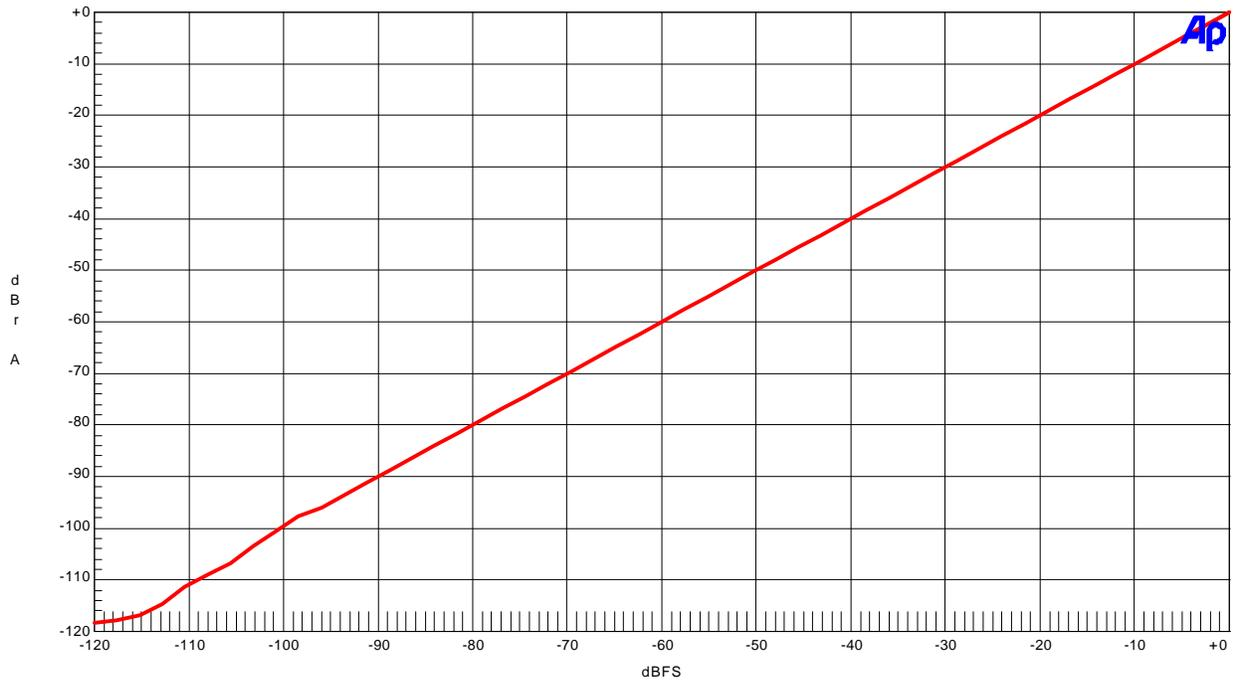

Figure12. Linearity (fin=1kHz)
- Figure12. Linearity (fin=1kHz)